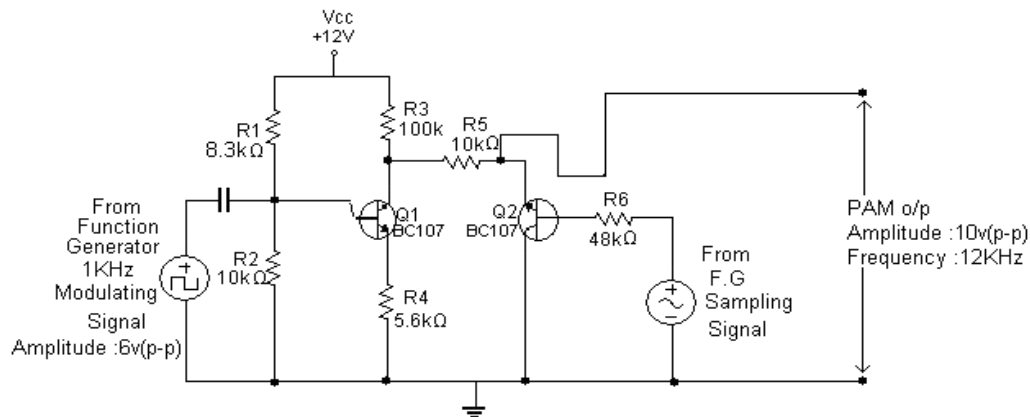

Fig: 3 Pulse Amplitude Modulation Circuit
1. Connect the circuit as per the circuit diagram shown in the fig 3